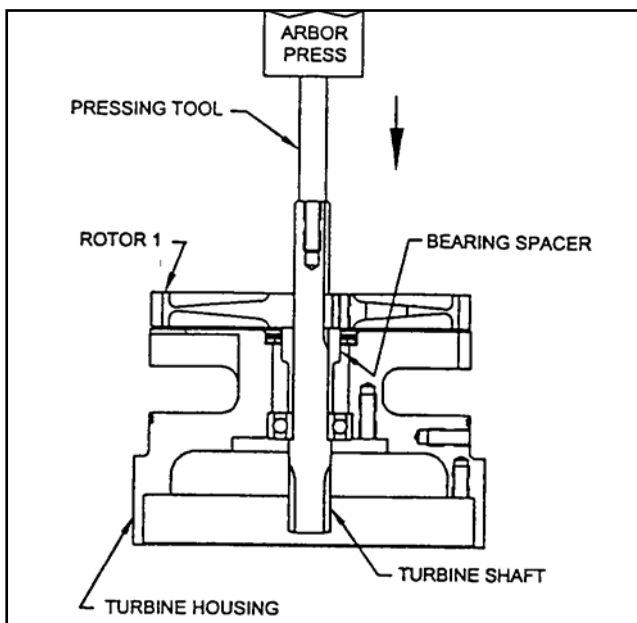

Figure 8. Turbine Shaft Removal
Press turbine shaft (24) through turbine housing (21) as shown in figure 8. Remove bearing spacer from turbine shaft.